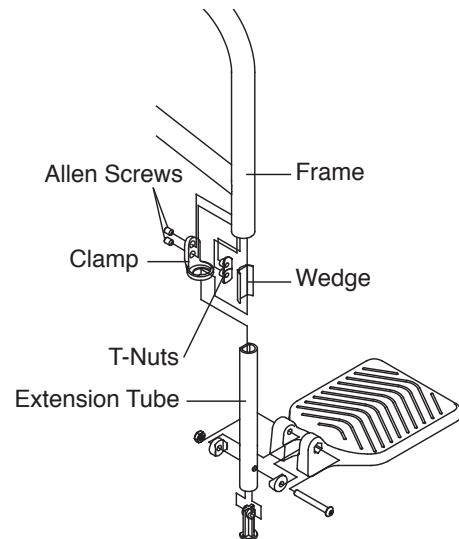

Figure 5
3. While holding the wedge in place on the inside wall of the frame, carefully insert the new footrest into the frame. Partially tighten the Allen Screws into the clamp and T-Nuts, thereby sandwiching the wedge between the T-Nuts and the Extension Tube. See Figure 5.